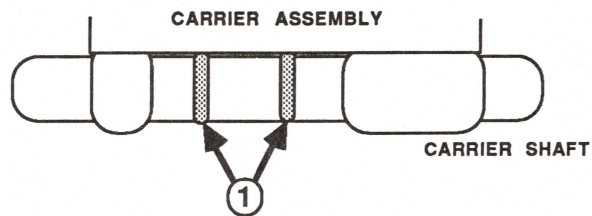

FIGURE 31
13. Turn the carrier assembly and the carrier shaft over. Slide the carrier shaft free of the carrier assembly. There are two felt wipers (for lubrication purposes) located where the carrier shaft slides through the carrier assembly. Remove them (see Figure 31, #1).
5. Slide the carrier shaft through one end of the carrier assembly, replace the two felt wipers (for lubrication purposes), and slide the carrier shaft through the other side of the carrier assembly (see Figure 31, #1).